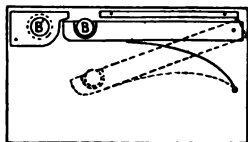

Fig. 61.
EXP. 89. — Arrange an apparatus (Fig. 61) to do these two things *at the same time*: (1) to throw one ball *B* horizontally, and (2) to drop another ball *B'* of equal size and weight. Listen as the two balls strike the floor. Inferences?